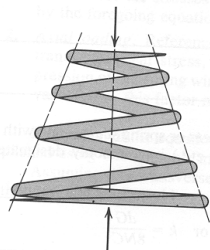

Figure 2 – Conical Spring
- c) Instead of a straight compression spring, a conical shaped spring like shown in Figure 2 is used. Assume that the number of coils remains the same and that $D_{top} = 3$ cm and $D_{bottom} = 5$ cm. Assuming the load remains the same, calculate the minimum wire diameter needed to prevent failure through static yielding. (3 pts)